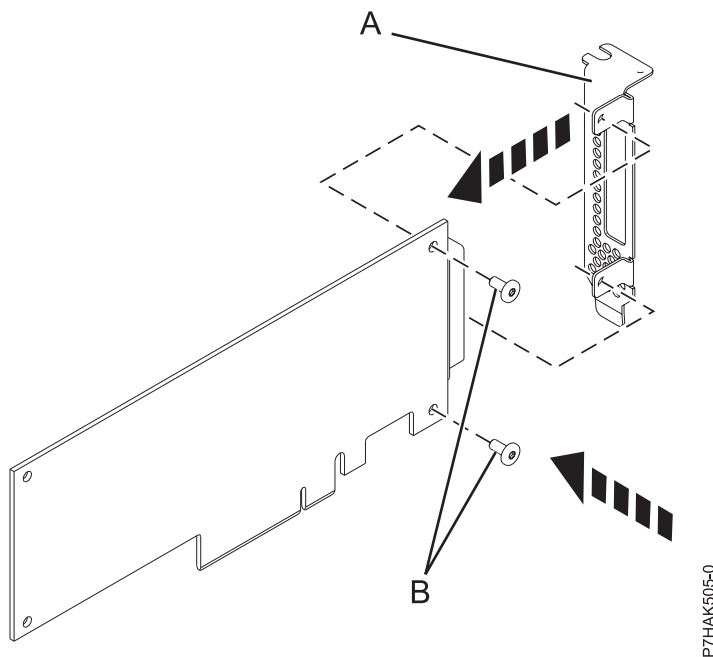

Figure 32. Attaching the low-profile tailstock to a PCIe adapter
14. Using a Phillips screwdriver and the two retaining screws **(B)**, attach the tailstock **(A)** from the failed PCIe adapter onto the new PCIe adapter, as shown in Figure 32.